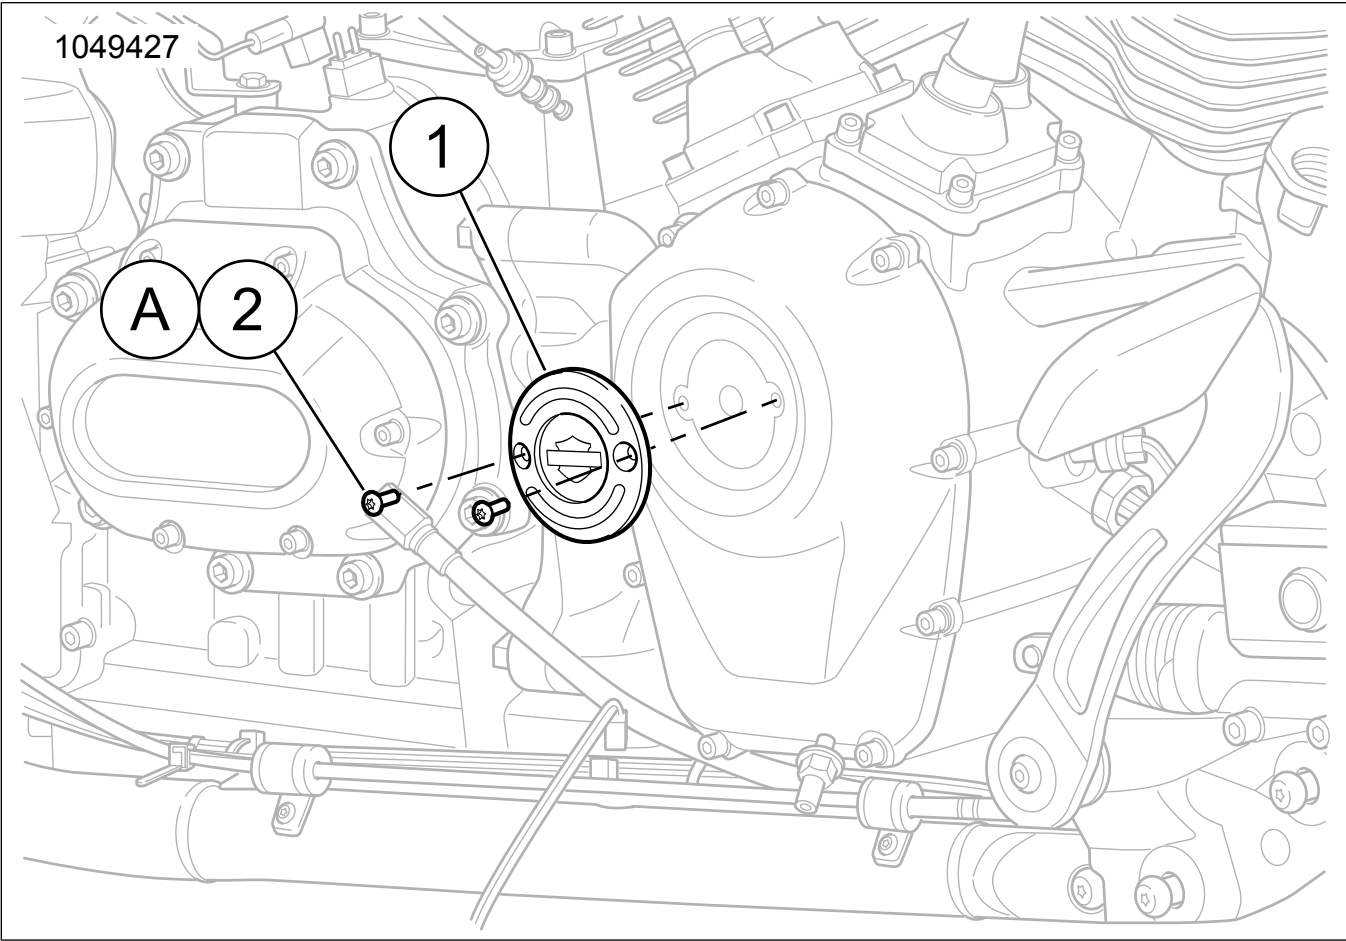

Figure 1. Kit Contents: Timer Cover Components
- See Figure 1. Remove Original Equipment (OE) screws. Discard.